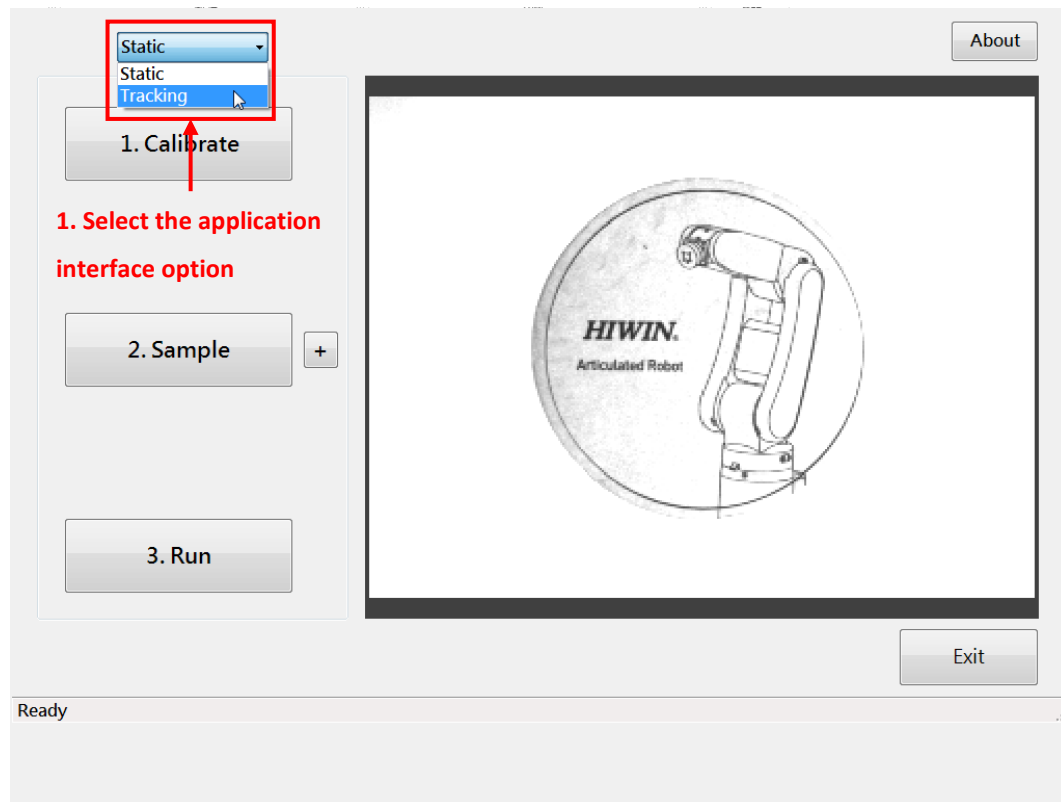

Figure 5-3 Select application interface
1. As shown in Figure 5-3, in the drop-down menu, select the application interface.